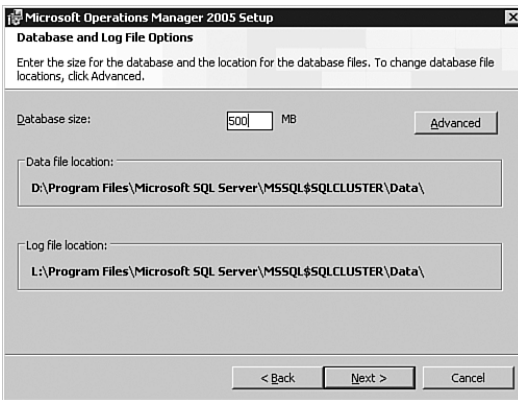

FIGURE 10.10 The database and log file options screen for the clustered database.
3. At the Database and Log File Options screen, be sure that you specify a physical disk resource belonging to the Cluster Group where the SQL Server instance is installed. Figure 10.10 shows the data file location on the D: drive and the log file locations on the L: drive, both of which are physical disk resources in our Cluster Group.